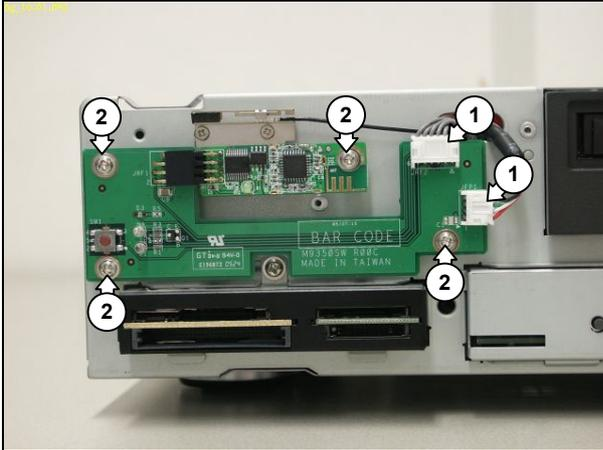

Figure 12.9-1
3. Disconnect all cables (1) from the SW board & RF receiver. See Figure 12.9-1.
4. Remove the 4 mounting screws (2) from the SW board & RF receiver. See Figure 12.9-1.